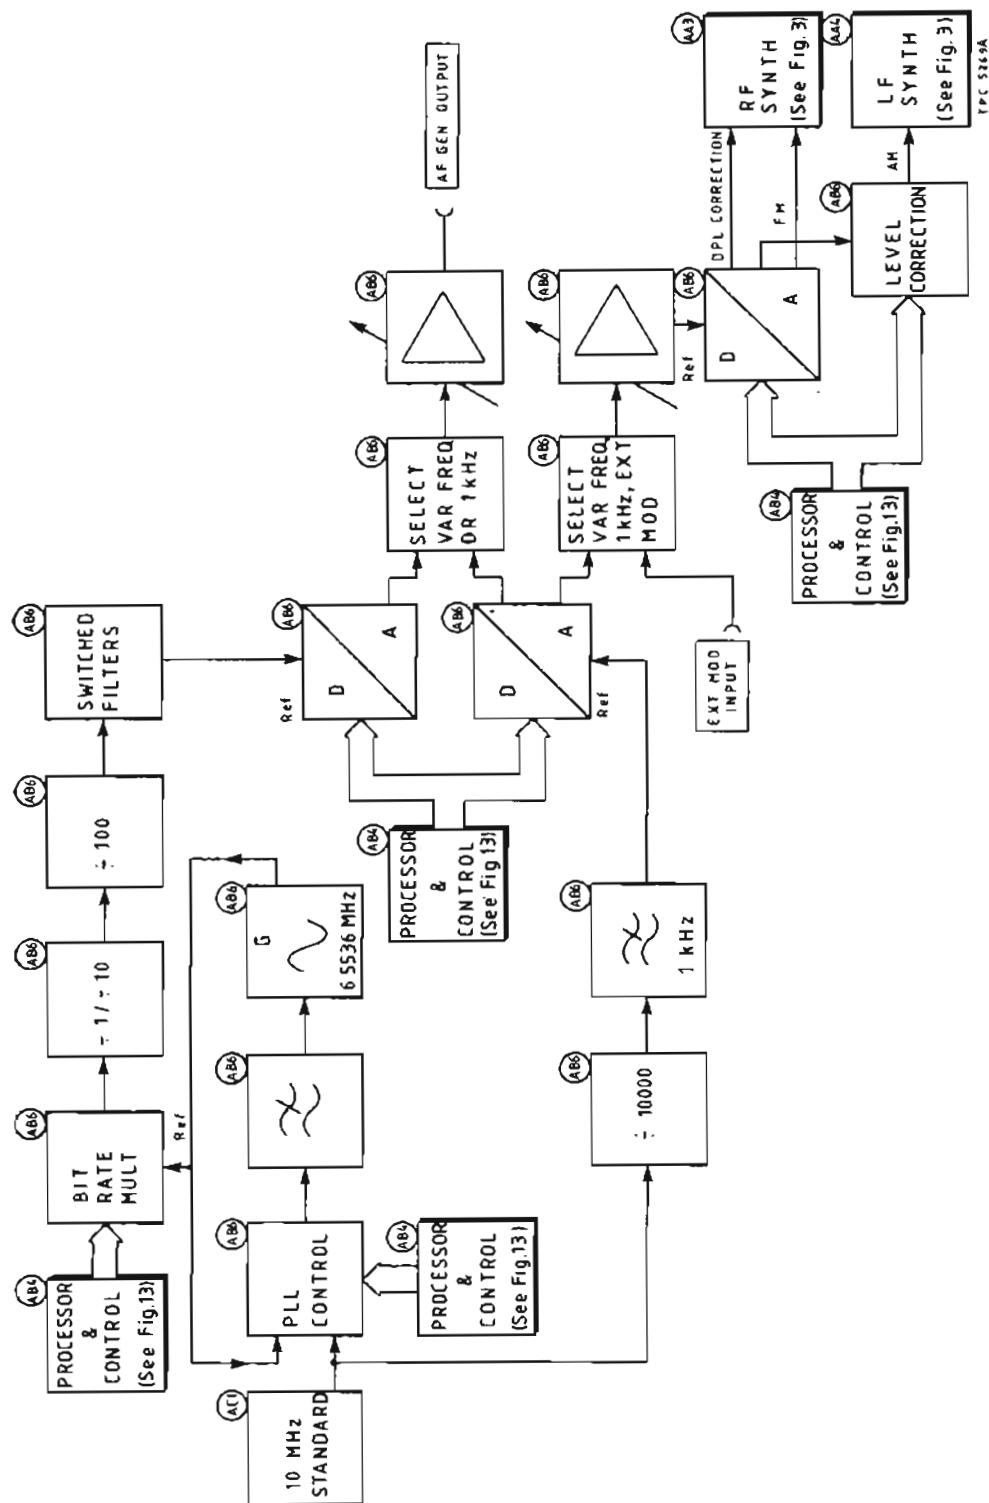

Fig. 6 Block diagram of a.f. synthesizer (showing main functions of boards)
50. AF synthesizer board AB6 generates a fixed 1 kHz as well as frequencies in the range 20 Hz to 20 kHz (see Fig. 6). For the variable frequency range, a 6.5536 MHz oscillator phase locked to the 10 MHz standard on AC1 supplies the frequency reference for a bit rate multiplier which generates the required frequency. The dividers which follow set the resolution to 0.1 or 1 Hz according to range. A switched capacitor filter converts the square waves from the divider into sine waves for supplying switched low-pass filters which track the fundamental frequency. Output from the filters supplies the reference for a multiplying D-A converter. A second DAC is similarly supplied with a reference which is at 1 kHz derived from the 10 MHz standard. The processor on AB4 controls DAC operation to implement signal level ranging. Two selectors follow. One selects the 1 kHz and/or a variable frequency for the AF GEN OUTPUT socket. The other selects the 1 kHz, a signal from the EXT MOD INPUT socket or a variable frequency, singly or in combination, for signal generator modulation. Both selectors feed to switched gain amplifiers which provide further scaling. One of the amplifiers supplies the reference for the modulation section DAC. This provides frequency modulation for r.f. synthesizer AA3 as well as, via another DAC, amplitude modulation and level control signals to l.f. synthesizer AA4.